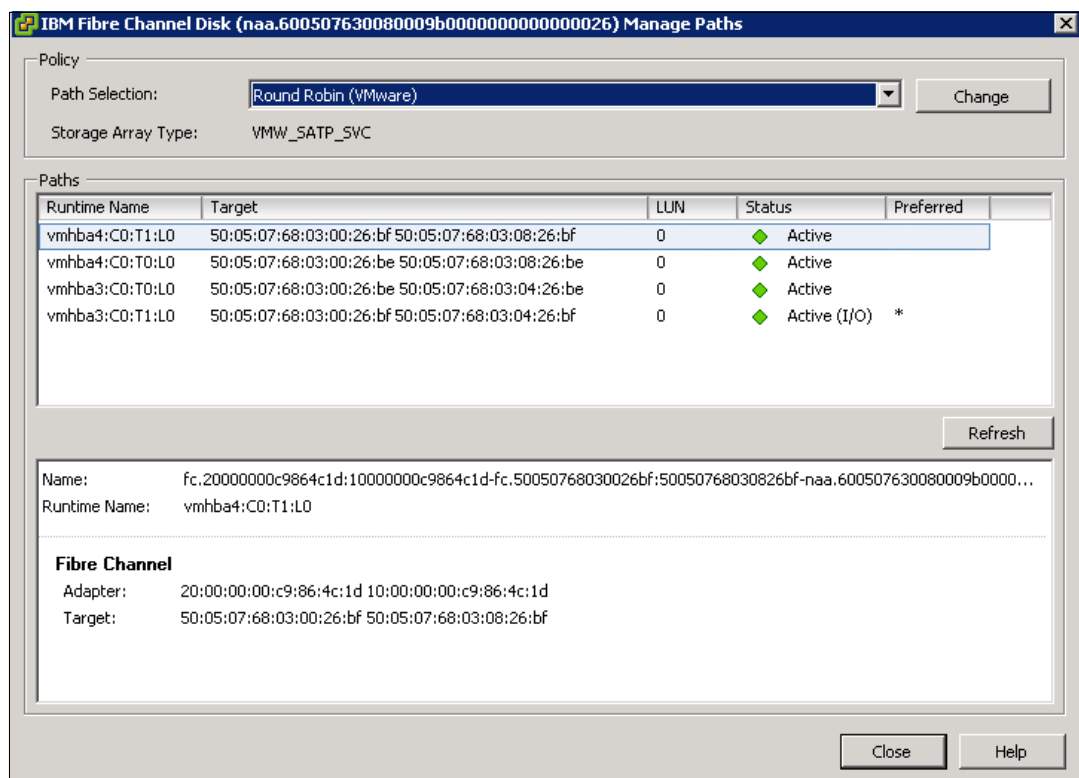

Figure 5-78 Select a Datastore multipath setting
- Click **Manage Paths** to customize the multipath settings. Select **Round Robin** (as shown in Figure 5-78) and click **Change**.